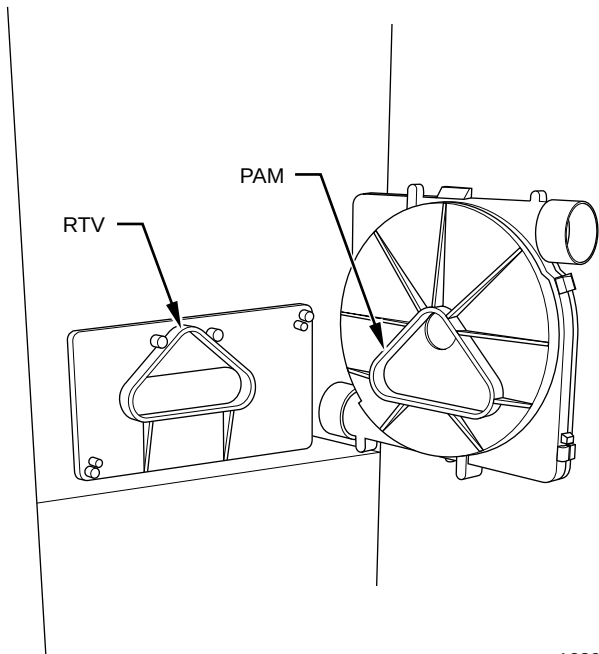

**Fig. 10—Gasket on Collector Box**
10. Reassemble inducer assembly by reversing items 5-7. Tighten the vent coupling clamp screw(s) to 15 in.-lb. of torque.
**NOTE:** If seal between the inducer housing and the collector box is damaged in any way, it must be repaired. To repair, apply sealant releasing agent such as PAM cooking spray or equivalent (must not contain corn or canola oil, aromatic or halogenated hydrocarbons, which could cause an inadequate seal to occur) to inducer housing. (See Fig. 10.) Apply a small bead of G.E. RTV 162, G.E. RTV 6702, or Dow-Corning RTV 738 sealant to groove in collector box.